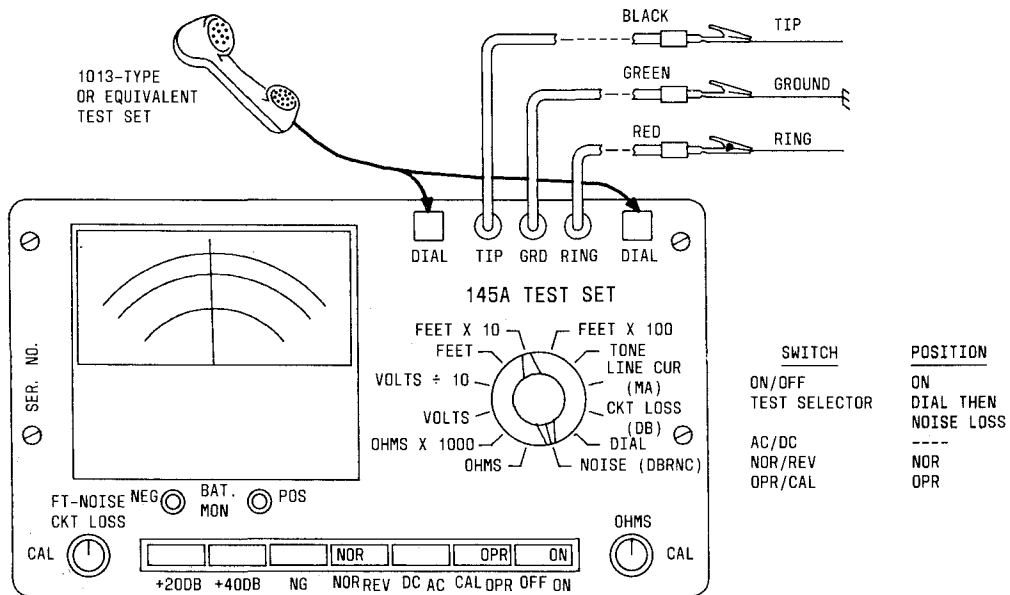

Fig. 13—Noise Measurement
4.09 Noise Measurement Test (Fig. 13):